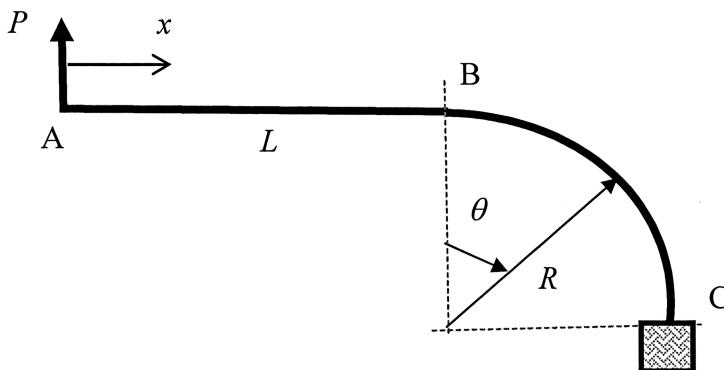

Figure 2
- (b) A welded beam ABC, has a horizontal segment of length,  $L$ , connected to a curved segment with radius  $R$ . The beam is fully fixed at point C, and has a vertical load  $P$ , applied at point A as shown in Figure 2. The deflection and rotation at any point of the beam can be calculated using the Unit Load and Unit Moment method.